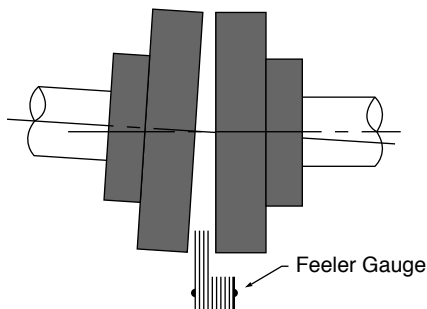

FIGURE 78. Checking Angular Misalignment
- To check angular misalignment as shown in Figure 78